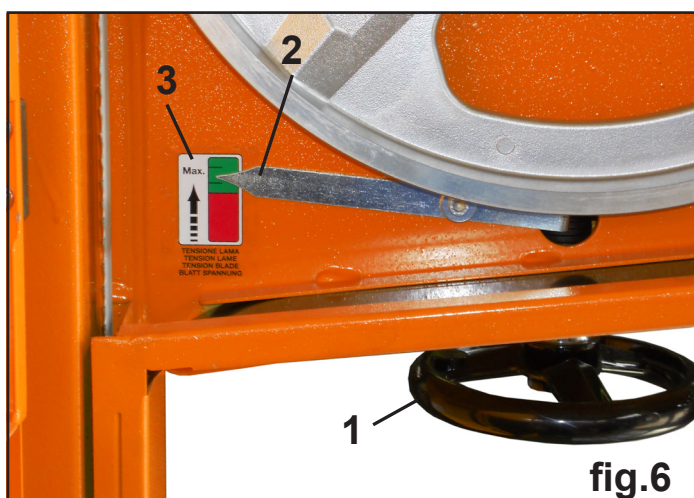

fig.6
- Before starting the machine, check that the blade is under tension (fig. 6)